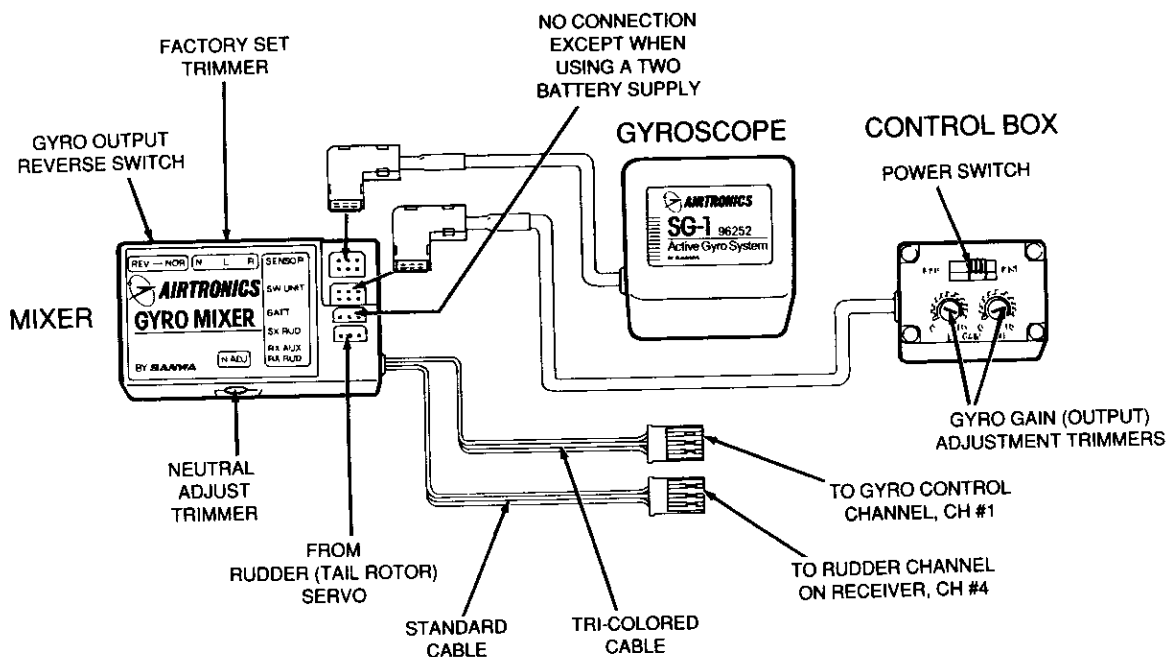
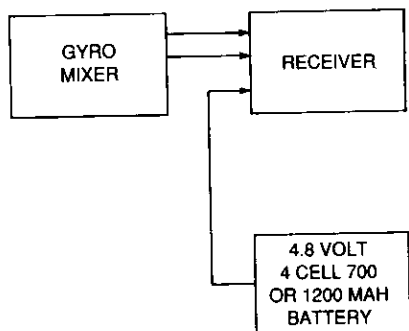
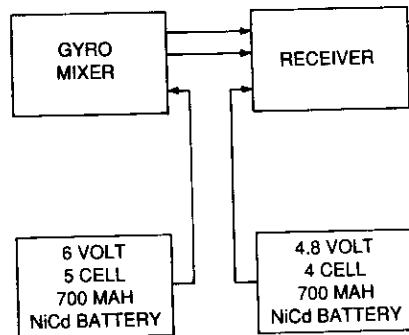

FIGURE 35
FIGURE 36
FIGURE 37
1. Connect the gyro system to the QUANTUM PCM 8H receiver as indicated in Figure 35. A single 1200 MAH or 700 MAH battery can be used to power both the receiver and the gyro as shown in Figure 36. However, if a separate power source is desired for powering the gyro, the connections should be made as shown in Figure 37.
4. Set your QUANTUM 8H servo reverse switch for channel #1, Gyro control, in the reverse position, and Gyro “I”-“II” control switch (22) to the “I” position. To activate the gyro, position the Gyro Control switch to the number II position.